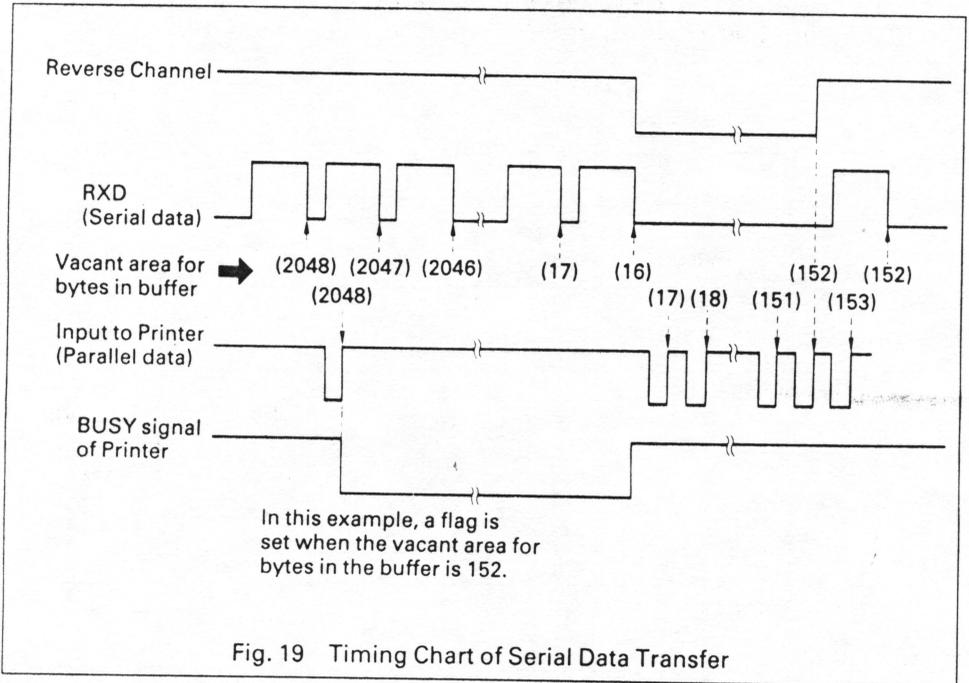

Fig. 19 Timing Chart of Serial Data Transfer
- (1) This serial interface (Cat. No. 8145) incorporates a data buffer with a capacity of 2,048 bytes, so that data are stored in this buffer while being converted from serial to parallel data by the exclusive CPU of the interface and then transferred in sequence from the buffer to the CPU in the printer. In this manner, no apparent waiting time will occur at low data transfer rates, since the CPU in the serial interface can receive data even if the CPU in the printer is busy. At high transfer rates, however, the print speed cannot catch up with the speed of data entry, which may result in overflow of the buffer memory. Therefore, avoid so-called "free run" of serial data.
- (2) In this interface, Reverse Channel (=2nd RTS) in the RS-232C, or TTY-TXD signal in the Current Loop is provided as a status flag for prohibition of any data entry. Therefore, the host computer must sense these flags and perform data transfer. (In some systems, serial data transfer can be blocked by connecting these flag signals with the Clear To Send (CTS) or Data Set Ready (DSR) of the host computer.)
- (3) This serial interface sets a flag when the vacant area for bytes in the buffer memory becomes 16. The printer is capable of accepting a maximum of 16 words even after it is put in the Not Ready state for data entry.
- (4) As for the timing to reset a data entry disable flag, this serial interface is designed so that the flag can be reset when the vacant area for bytes in the buffer memory reaches 152, 288, 560 or 1,936 bytes while the data stored in the buffer memory are being transferred one after another to the printer. (See Table 5 and Fig. 19.)
- (5) The polarity of the flag can be changed using DIP switch pins SW2-2 and SW2-3. So set the DIP switch pins according to the specification of the host computer. (See Table 3.) In this case, be sure to set DIP switch pin SW2-4 to the ON position.
- (6) Fig. 19 shows the timing chart of serial data transfer.